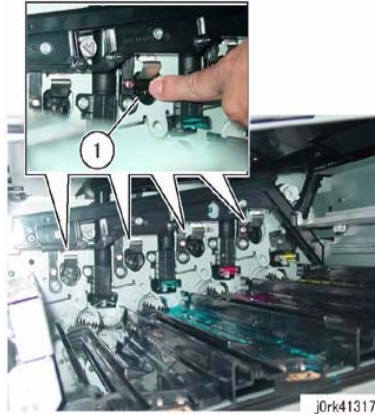

Figure 4 Couplings
4. By pushing each of the Couplings from the front, check that the Couplings (4: Y, M, C, K) on the Drum Drive Assembly work without binding. (Figure 4)